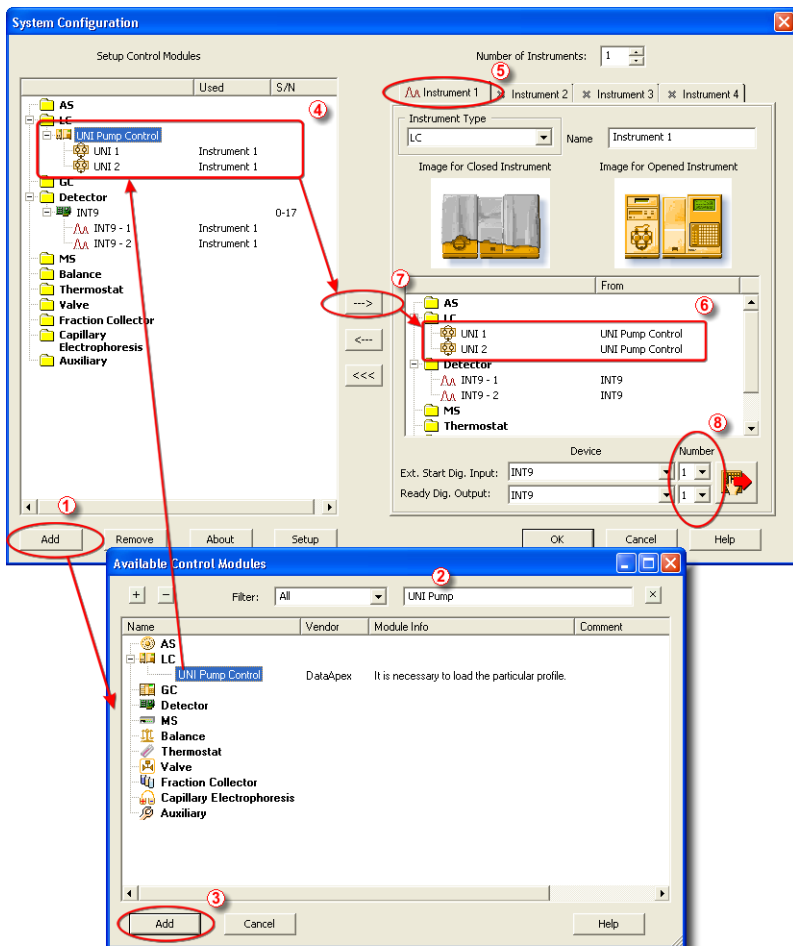

Fig 2: How to add Knauer pumps
Start the **Clarity** station by clicking on the  icon on the desktop. Invoke the **System Configuration** dialog accessible from the **Clarity** window using the *System - Configuration...* command. Press the **Add** button ① (see Fig 2 on pg 5.) to invoke the **Available Control Modules** dialog. You can specify the searching filter ② to simplify the finding of the driver. Select the **UNI Pump Control** item and press the **Add** ③ button.